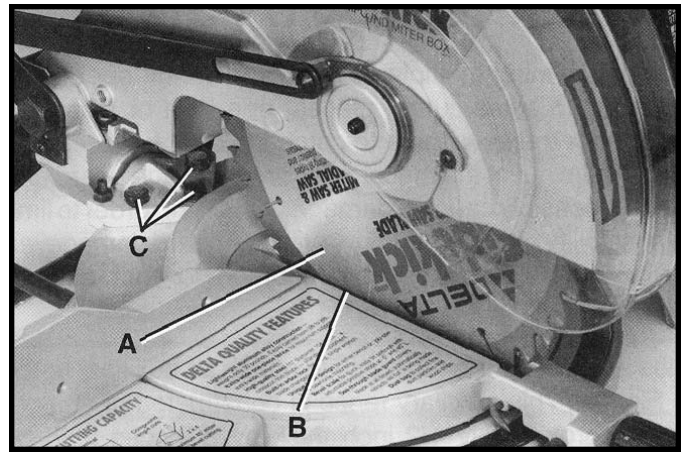

Fig. 32
3. Lower the cutting arm. The saw blade (A) Fig. 32, should be parallel to the left edge (B) of the table opening.
4. If an adjustment is necessary, loosen three screws (C) Fig. 32, and move the cutting arm until the blade is parallel with the left edge (B) of the table opening. Then tighten the three screws (C).